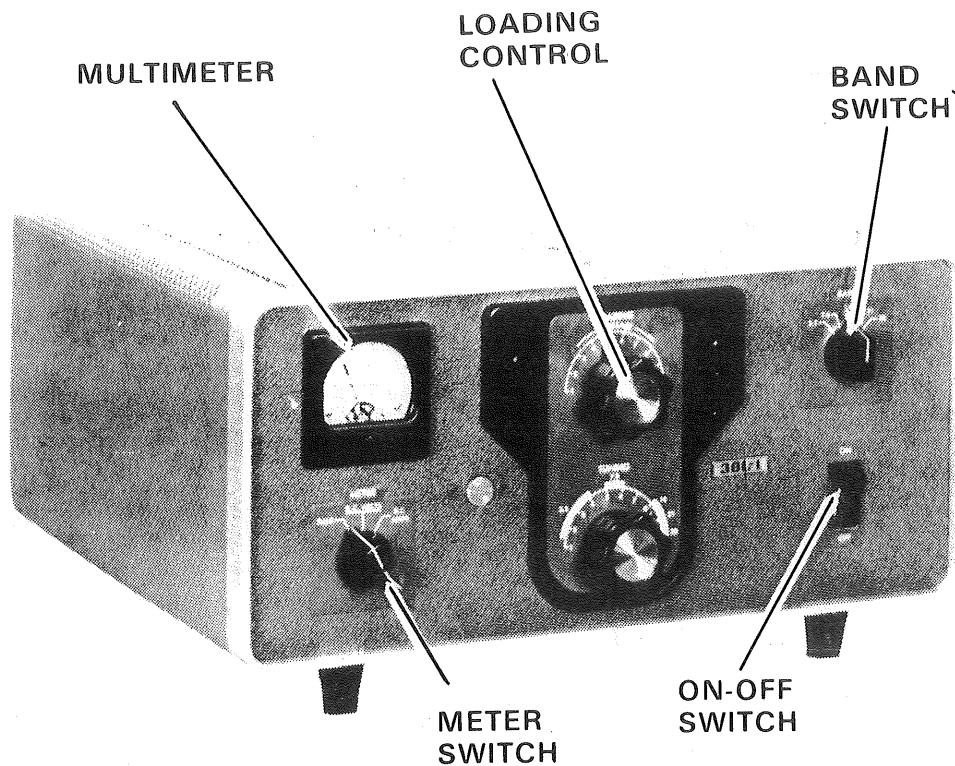

Figure 5. Operating Controls for Collins 30L-1.
b. See figure 5 for operating control of RF AM-3979/FRC-93 (30L-1).